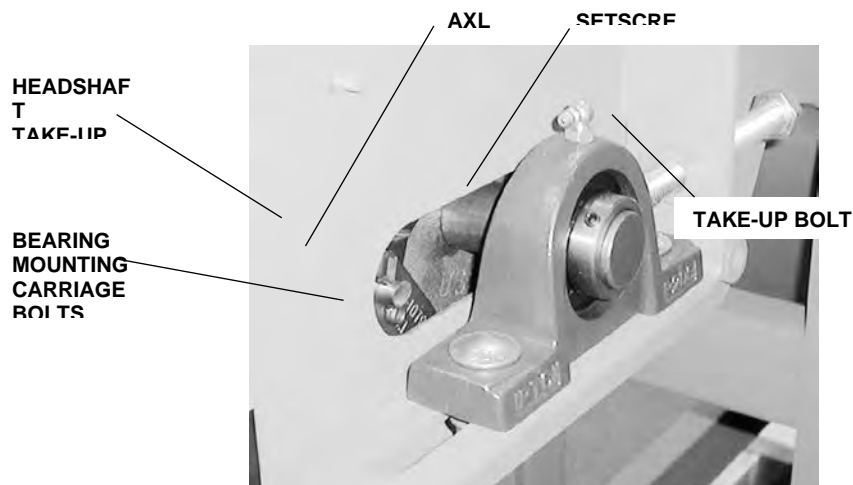

Figure 10: Headshaft Take-Up Slot
- D. If the headshaft has lateral movement in the bearings: Check the headshaft-bearing mounting carriage bolts for tightness (Figure 10). If either is loose, proceed as follows: